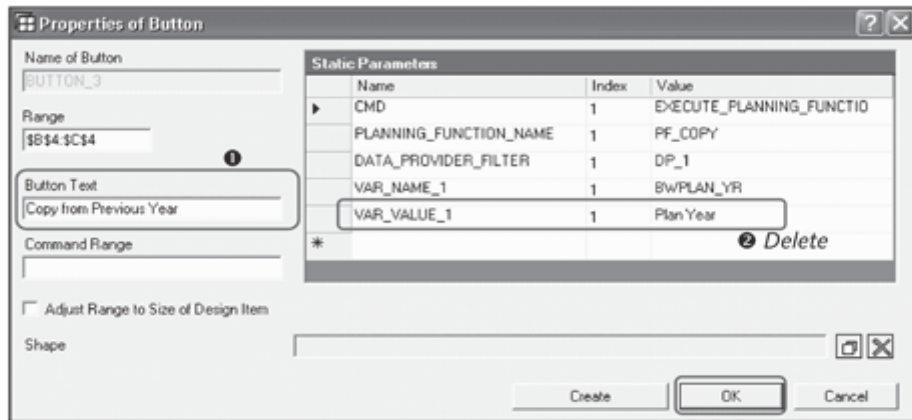

Figure 12.84 Maintain Properties of the Button
11. After you've defined the planning function and the data provider, click the Finish button to move to the next screen. This is where you can set the button properties and other parameters related to the planning function (Figure 12.84).
12. Maintain the button text as shown in 1 of Figure 12.84.
13. You'll notice the list of static parameters on the right side of the screen. This lists all of the parameters associated with the planning function that you've selected earlier; you can maintain the values for those parameters that will remain static throughout. Also note that there are parameter entries for the variables used in the function. The parameter VAR_NAME_1 corresponds to the name of the variable, and the parameter VAR_VALUE_1 corresponds to the value that this variable will store. The planning function PF_COPY, which we've selected here, used the variable BWPLAN_YR (refer to this planning function definition in the section where we explain the Copy function). This is a user entry variable, so it isn't needed to define the static parameter for the variable value. Delete the entry VAR_VALUE_1 from the static parameters (2), and click on OK to complete the planning function assignment to the button.